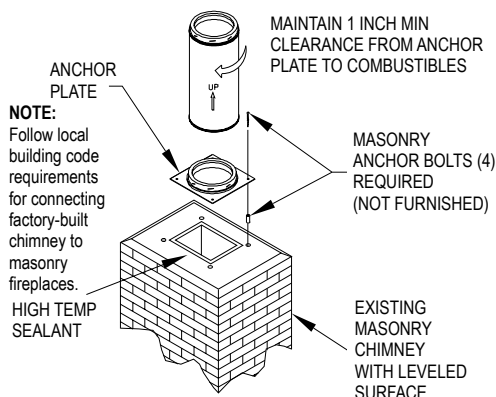

Figure 30
masonry chimneys. Center the Anchor Plate over the masonry flue opening, and seal the Anchor Plate with a high-temperature (1000°F) sealant. Secure Anchor Plate with at least (4) 1/4" x 4" masonry anchors (**Fig 30**). It is very important that the Anchor Plate is level. *Be sure to maintain a 1" min. clearance to combustibles from the Anchor Plate.*